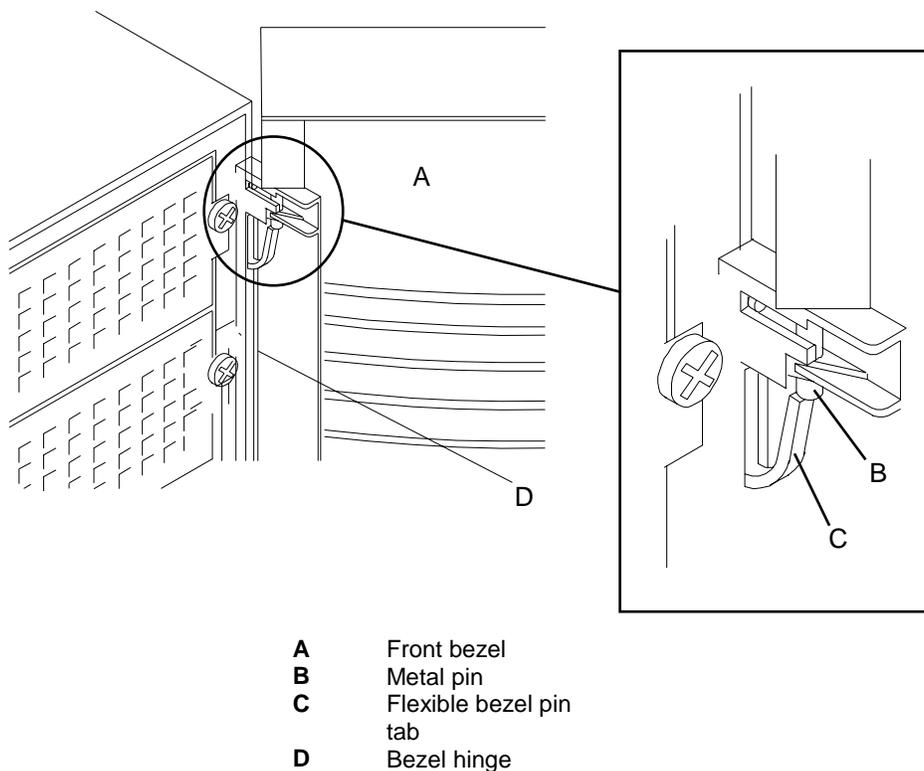

Figure 4-48. Removing the Front Bezel
To remove the front bezel and front bezel hinge (see Figure 4-48 and Figure 4-48), perform the following procedures:
2. Remove the metal pin (B) from the top of the bezel hinge (D) by pushing in on the flexible bezel pin tab (C) and pulling the pin down and out of the bezel hinge. See Figure 4-48.
3. Allow the bezel (A) to drop down so that it disengages from the bottom of the bezel hinge and remove the bezel.